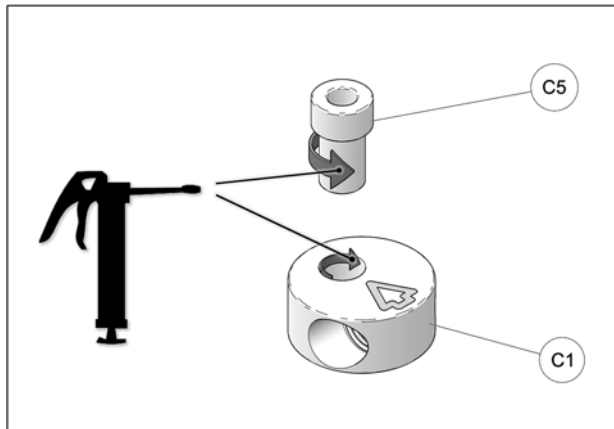

Fig. 20
11. Apply grease evenly all around step spacer bushing (C5) and in hole of aluminum disk (C1) when assembling these parts together. See Fig. 20